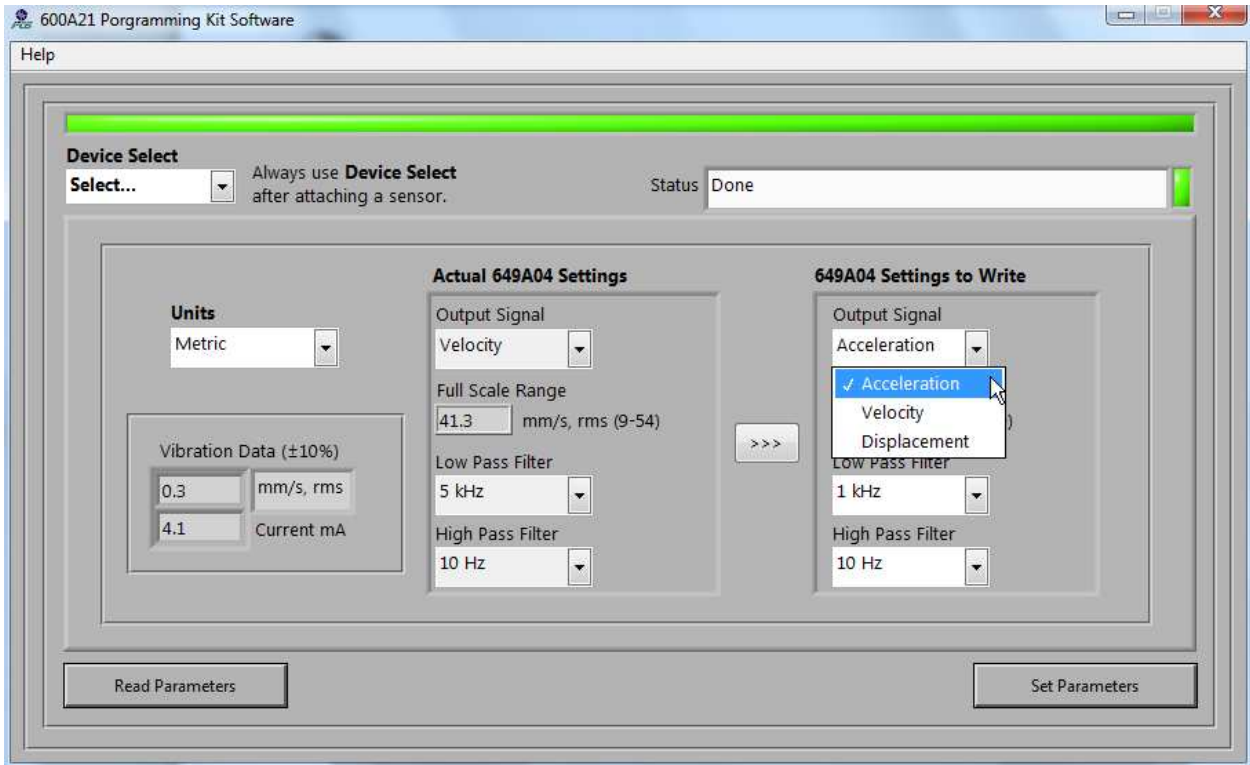

Figure 10 –649A04 Output Signal Selection
Figure 10 displays the programming options for the output signal, full scale and the filters.
- Select the Output Signal (Figure 10)